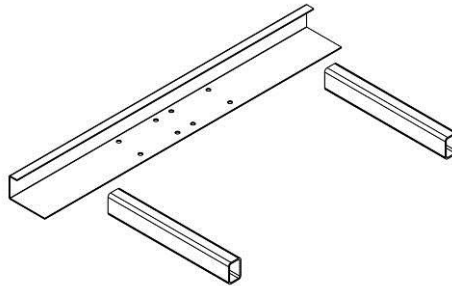

Figure 1
1. In order to mount the pivots on your side dump trailer, you will need to attach mounting brackets to each end. If you purchased mounting brackets manufactured by Roll-Rite Corp., refer to fig. 1 for bracket specifications.